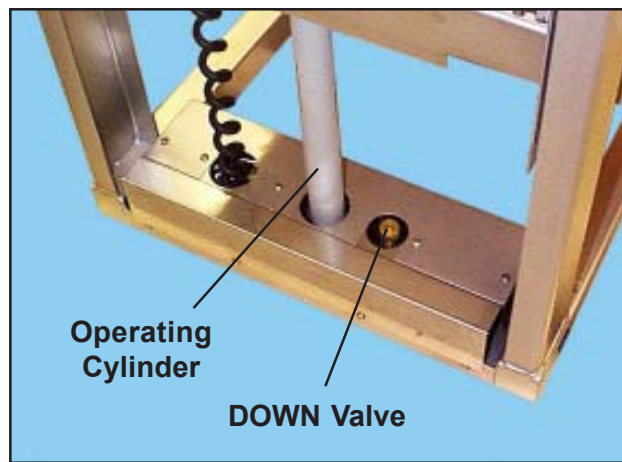

Figure 7. DOWN Valve
Be careful whenever you are attempting to adjust the flow control valve that governs the downward speed of the table. This valve is located directly under the vertically sliding carriage. The possibility exists that the sliding carriage could descend directly on your hand while you are making this adjustment. Always make sure that the carriage has stopped completely before adjusting the **DOWN** valve (Figure 7 on *Page 13*).
4. Press on the **DN** side of the foot controller and observe the table's downward motion. Adjust the **DOWN** valve next to the operating cylinder (Figure 7) until the table lowers at a comfortable speed. Rotate the valve: